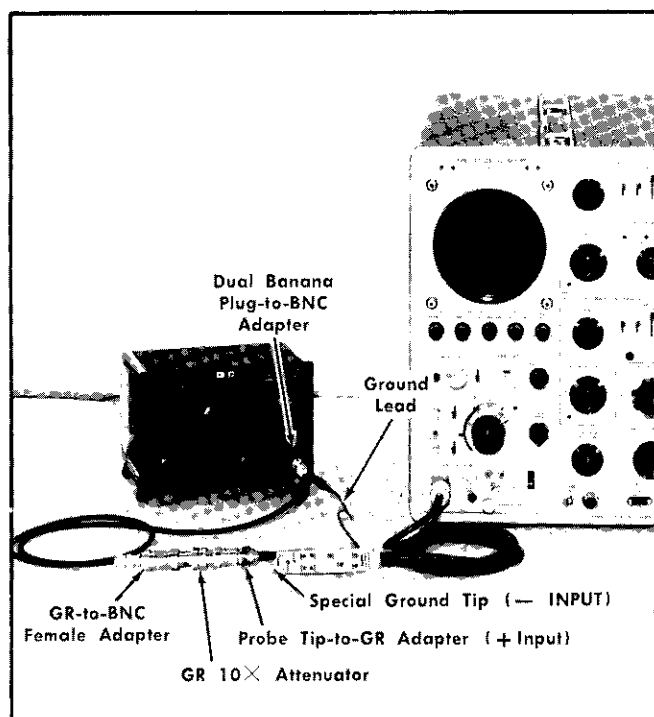

Fig. 6-21. Equipment setup for AC-Coupled low-frequency response check, step 12.
a. The preliminary equipment settings apply. The equipment setup is shown in Fig. 6-21.
e. Connect the Probe ground lead to the chassis of the Low Frequency Sine-Wave Generator (item 7); then connect the following equipment to the Generator output connector in the sequence given: